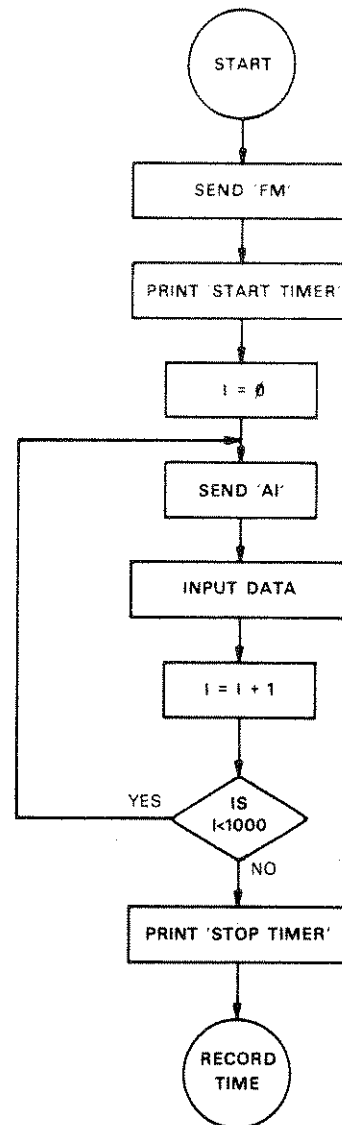

Figure 4-7. Flowchart for Programming 560A to Return 1000 Readings of Channel A Data
1. Referring to flowchart in Figure 4-7 or program in Figure 4-8, program the controller to (1) send a fast mode (FM) command and (2) take 1000 read-
2. Program controller to (1) send hold
mode (HM) command, (2) send smoothing off (SØ) command, and (3) take 1000 readings of Channel A data. (In flowchart of Figure 4-7, change "FM" to "HMSØ" and rerun program.) Use a stopwatch to measure the time between "START TIMER" and "STOP TIMER" in controller program. Subtract the time measured in step 1 from the time measured in this step. The difference between these two times should be  $12 \pm 2$  seconds. If the time is not  $12 \pm 2$  seconds, the A6 PCB is faulty; there is no adjustment for this time delay.